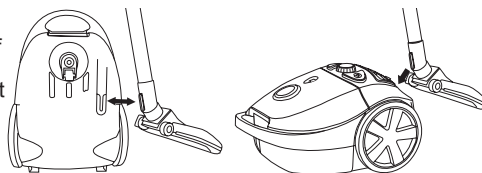

Figure 6
- Stand the vacuum cleaner upright. An attachment slot for the accessory bracket is fitted to the back of the vacuum cleaner next to the front castor (see Figure 6). Slide the bottom of the accessory bracket into the slot. This avoids the need to dismantle the vacuum cleaner after use; you can store the assembled appliance and retrieve it again quickly when you need it.